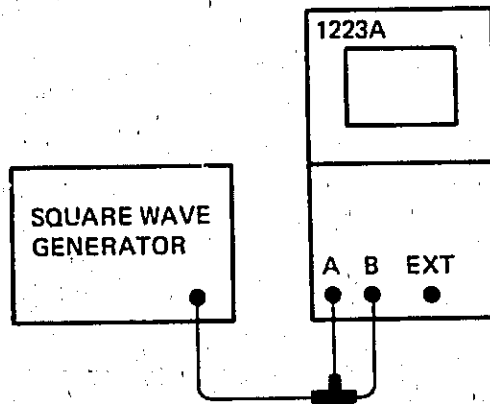

Figure 4-1. Input Coupling and Auto On-Off Blanking Test Setup.
2. Connect the Squarewave Generator to the 1223A as shown in Figure 4-1.